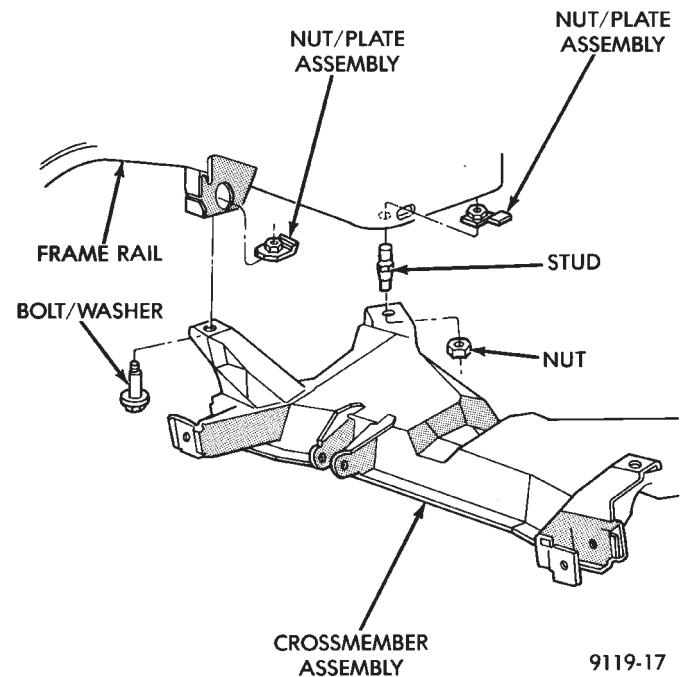

Fig. 2 Crossmember Remove/Replace
- (4) Disconnect engine damper strut from crossmember (if so equipped).
- (5) Remove the 3 front suspension crossmember attaching bolts and the nut (Fig. 2) from the locating stud. Lower front suspension crossmember, using